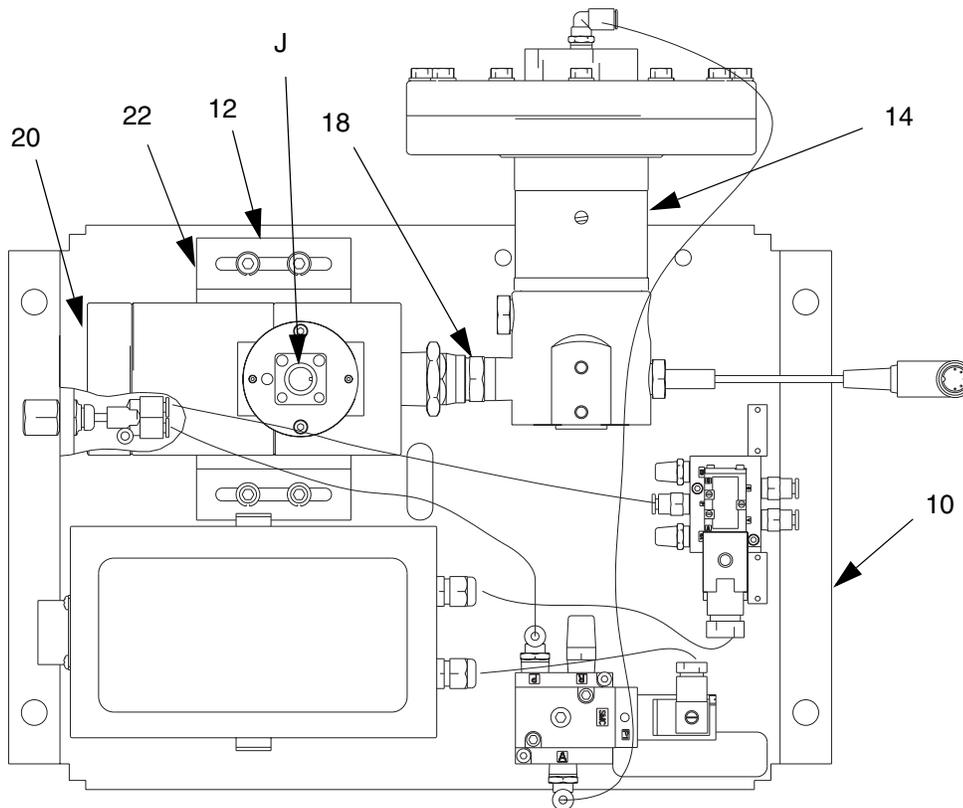

FIG. 26
- flow meter (20) (FIG. 26)
- regulator (14) (FIG. 26)
2. Disconnect the flow meter cable (J) from the flow meter sensor. See FIG. 26.
4. Disconnect the swivel fitting (18) from the regulator.
5. Loosen the four screws (12), and remove the bracket (22) and flow meter.
6. The flow meter (20) weighs approximately 15 lbs. (6.75 kg). Carefully lift it off the mounting plate (10).
1. Rest the flow meter and bracket (20) on the fluid plate while threading the swivel fitting (18) onto the regulator material inlet. See FIG. 26.
2. Tighten the swivel fitting (18) to the regulator material inlet.
3. Tighten the four screws (12) to hold the bracket and flow meter in place.
4. Check that the flow meter (20) and regulator (14) are still aligned.
6. Connect the flow meter cable (J).